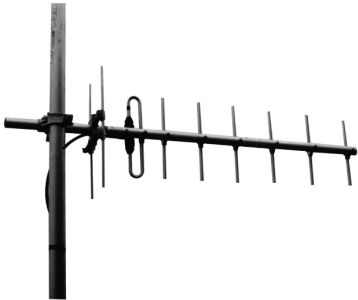

Fig. 1
- 3** If the antenna is to be operated in vertical polarisation (VP) and the antenna dipole is of the tube type, the live-side of the dipole, to which a black plastic ring is attached, must be uppermost. The small black bung in the hole of the tube at the lower extremity must be removed (see Fig.1): 'live-side' uppermost – IMPORTANT for phasing multiple antennas.